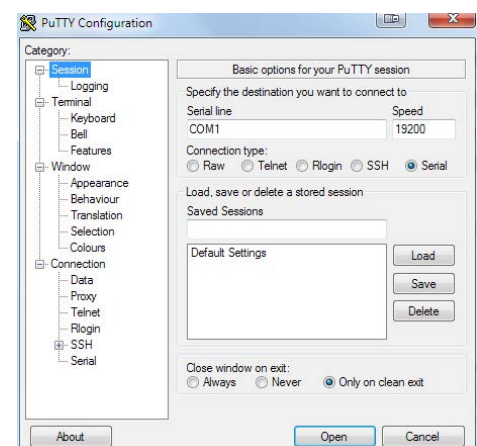

Figure 4: PuTTY Session Settings
- Once the correct parameters have been set on the **Serial** page, select **Session** from the **Category** list and select **Serial** from the **Connection type** as shown in Figure 4.